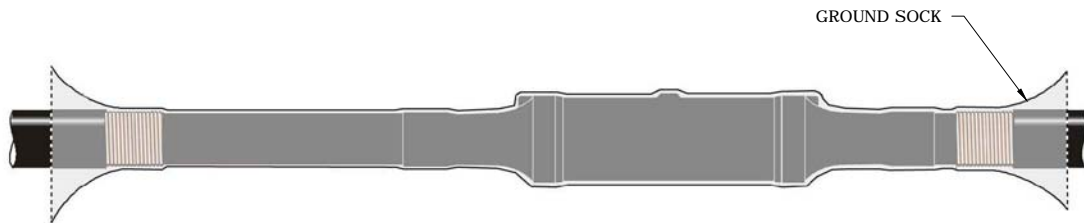

FIGURE 6
STEP 27: RUB THE EXPOSED PORTION OF THE LC SHIELD WITH 240 GRIT ALUMINUM OXIDE CLOTH IN ORDER TO REMOVE ANY SURFACE FILM THAT MIGHT BE PRESENT. (WIRE BRUSHING COULD DAMAGE THE LC SHIELD.) POSITION THE GROUND SOCK OVER THE CENTER OF THE CABLE JACKET CUTBACKS AND, STARTING AT EITHER END, FORM THE SOCK TO THE SHAPES COVERED. SEE FIGURE 6. TWISTING THE GROUND SOCK WILL HELP TO MOLD IT TO THE SHAPE OF THE SPLICE HOUSING AND CABLE.